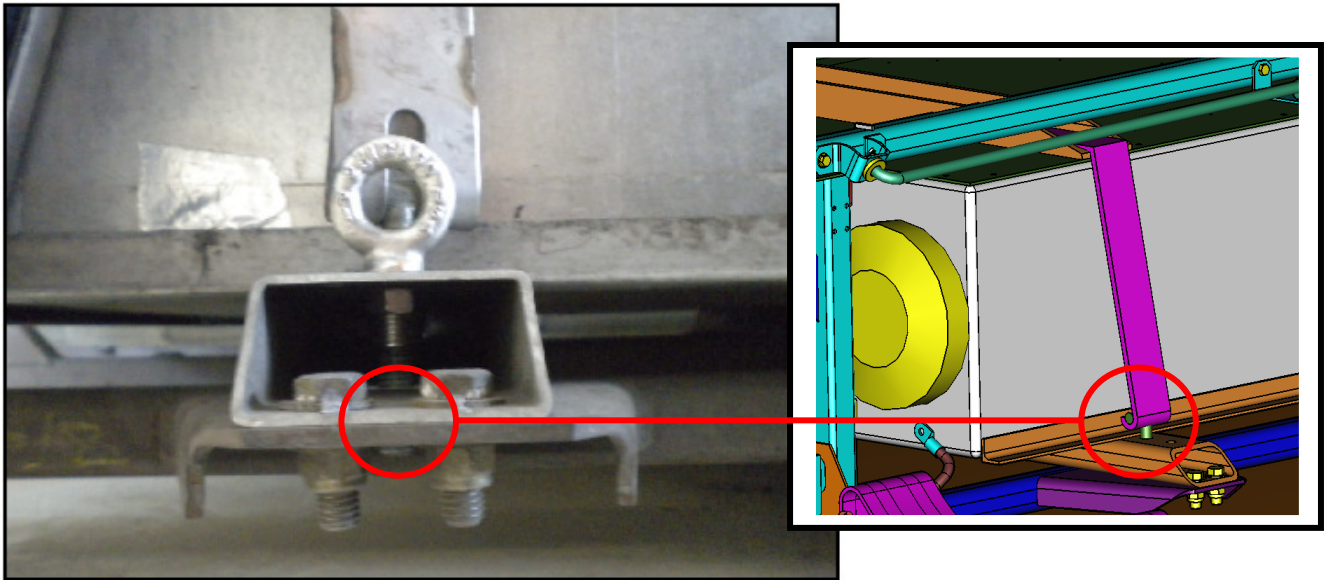

Fig 6 – Legacy UCAP Strapping
- c. Remove the nut holding the strap to the base (one side only) of the bus. Remove strap from base and move out of the way to gain access to the UCAP lid. See Fig 6